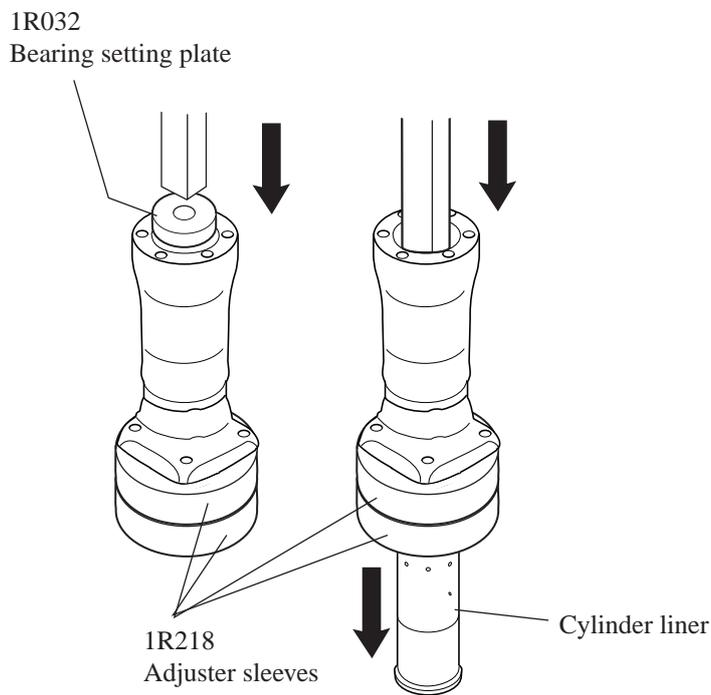

Fig. 16
- (2) Put 1R032 "Bearing setting plate" into barrel. And remove cylinder liner from barrel by pressing the 1R032 put into barrel with arbor press. See Fig.16.